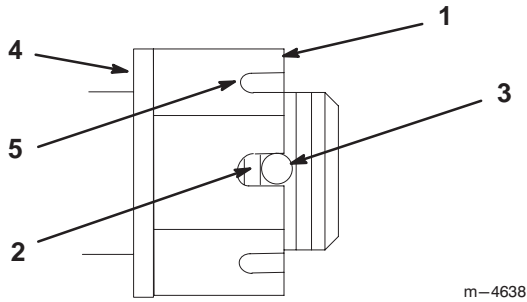

Figure 50
3. Torque slotted nut to 125 ft-lbs (169.5 N•m) (Fig. 50).
4. Check the distance from bottom of slot in nut to inside edge of hole. Two threads or less should be showing (Fig. 50).
5. If more than two threads are showing remove nut and install washer between hub and nut (Fig. 50).
6. Torque the slotted nut to 125 ft-lbs (169.5 N•m) (Fig. 50).
7. Tighten nut until the next set of slots line up with the hole in the shaft (Fig. 50).